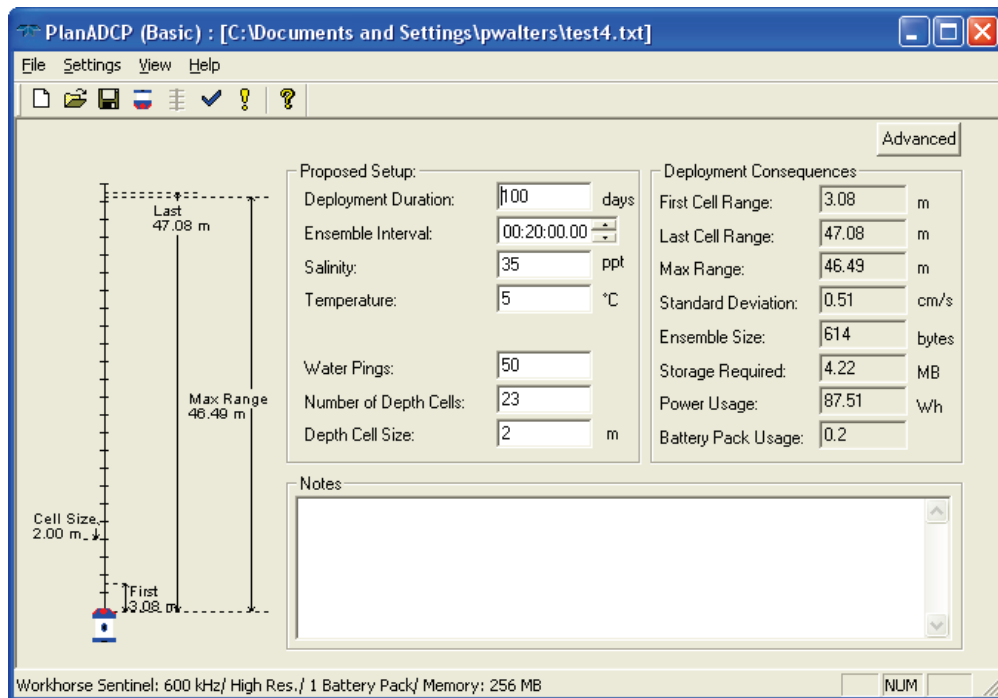

Figure 33. Basic Screen (No Bottom Track)
- n. The *PlanADCP* (Basic) Screen opens using the settings you selected with the wizard (see Figure 33).
On the *PlanADCP* (Basic) Screen (see Figure 33), click the **Advanced** button to bring up the **Advanced** setting screen.